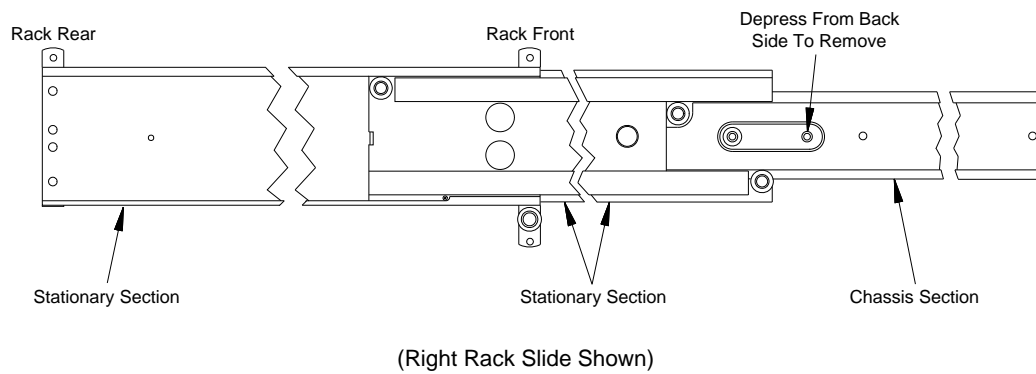

Figure 2-8. Removing the Rack Slide Chassis Section from the Intermediate Section
5. Remove the chassis section from the intermediate section (Figure 2-8). (The chassis section will be connected to the mainframe in Step 7.) Slide the intermediate section back into the stationary section.